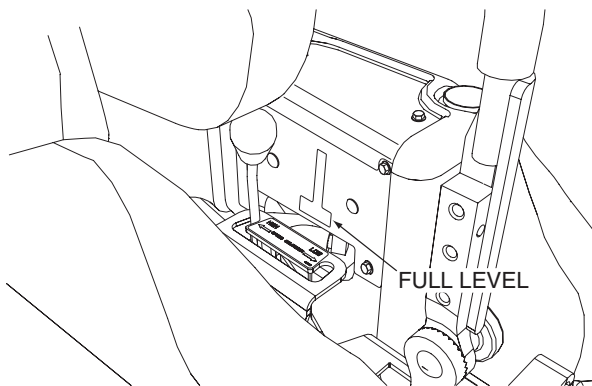

Figure 7-2. Hydraulic Oil Reservoir
2. Visually check the level of hydraulic oil. Hydraulic oil must be within the center of the wide portion of the indicator window when the machine is cold. See Figure 7-2. If the fluid is low, add 20W50 motor oil. DO NOT overfill; (overfilling the oil reservoir may cause oil seepage around the cap area).